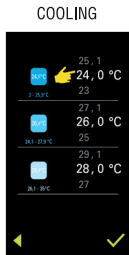

Fig.48A
9.5.3 Set the desired temperature for Heating or Cooling by scrolling the degrees; Fig.48A or 48B